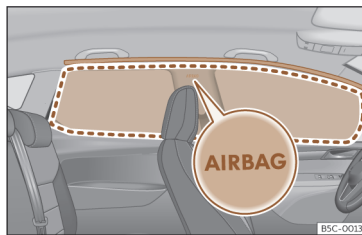

Fig. 33 Location of head-protection airbags.
Head-protection airbags are on both sides of the vehicle interior, above the doors >>> **Fig. 33** and their location is indicated with the word "AIRBAG".
The framed area is covered by the head-protection airbag when it is deployed (deployment area) >>> **Fig. 33**. Therefore, objects should never be placed or mounted in this area >>> ⚠.
- Ensure that children are correctly seated in their seats and that their heads are not in the deployment zone of the head airbags >>> **Fig. 33**, as deploying airbags could hit them and cause serious injury.